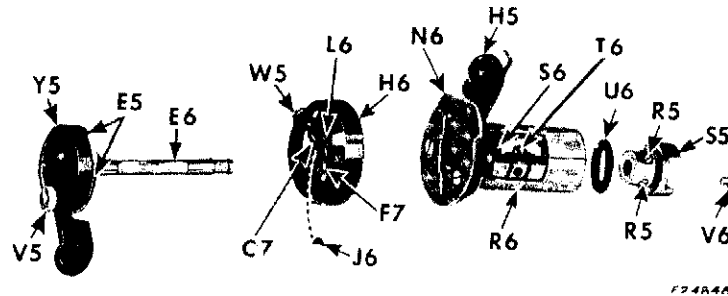
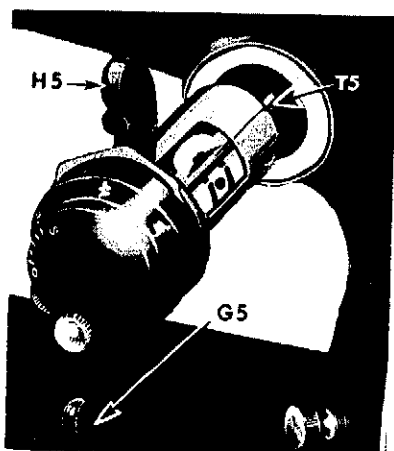

Fig. 141. Completing Assembly of Bight Control Mechanism
Fig. 144. Installing Bight Control Mechanism
COMPLETING ASSEMBLY See Figs. 141 and 142
22. Set bight lever **G5**, Fig. 144 at "O" position. Loosen bight limit screw **V5**, Fig. 141 to release stop-shoe. Slide the stop-shoe until it closes the recess **E5** while maintaining lever **G5** at "O" position. Lock bight at "O" by retightening stop screw **E5**.
Set both control levers **G5** and **H5** at neutral position, as shown in Fig. 144, and slide entire assembly into arm.